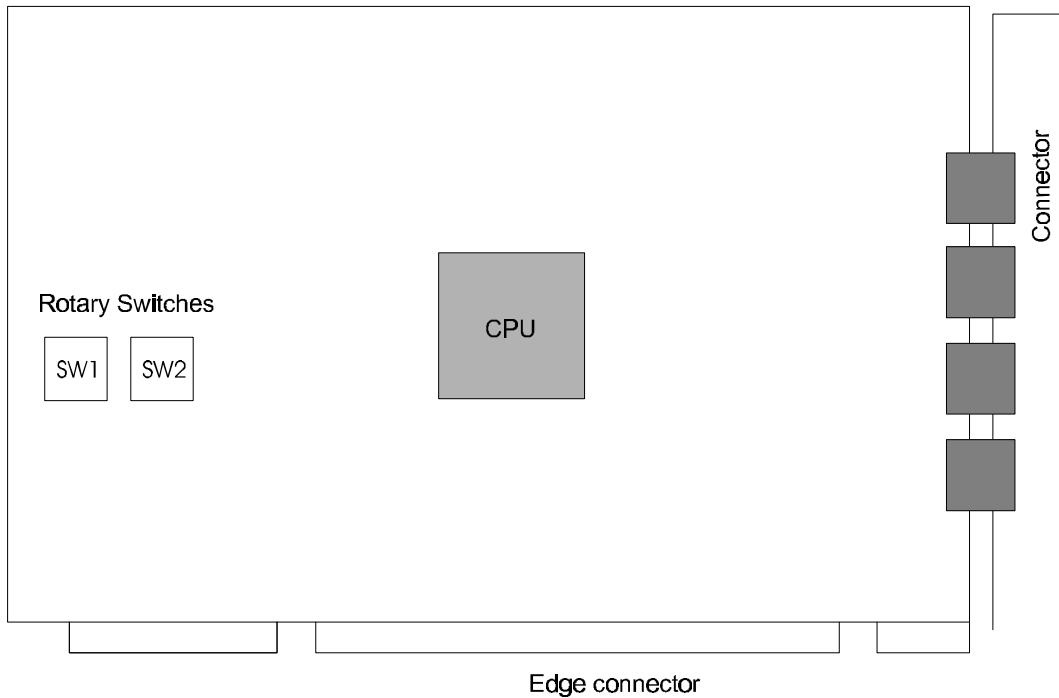

Figure 1 **ISA Card: Location of the rotary switches**
1. Select a memory address using the two rotary switches on the card (see Figure 1). Insert your RIO host card(s) inside your machine. Turn on your machine.
1. Select a memory address on the two rotary switches on the card (see Figure 1). Insert the card into your machine, turn on the machine and **either:**